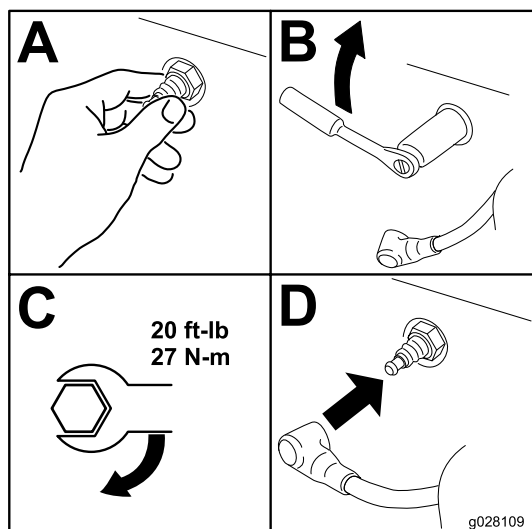

Figure 54
1. Install the spark plug(s) as shown in Figure 54.